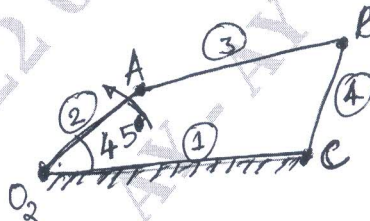

Fig.Q3(a)
- 3 a. The Fig.Q3(a) shows a four bar mechanism. Crank O_2A rotates of 200 rpm and an angular acceleration of 150 rad/sec^2 at the instant when the crank makes an angle of 45° to the horizontal. Find the acceleration of points B and C and angular velocities and angular acceleration of link 3 and 4.